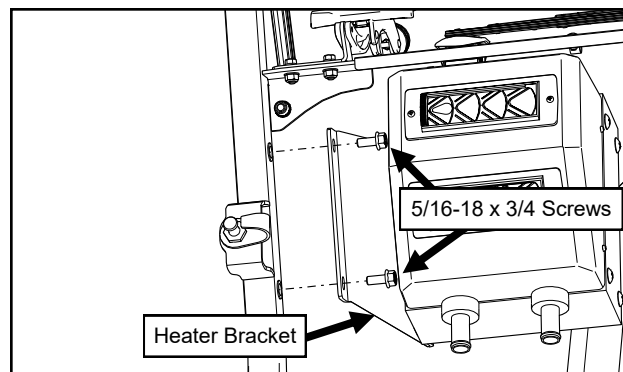

Fig. 15.2 (Install Heater with Bracket)
15.2 Attach the heater bracket to the threaded inserts on the left A-pillar. See Figure 15.2. Tighten hardware.